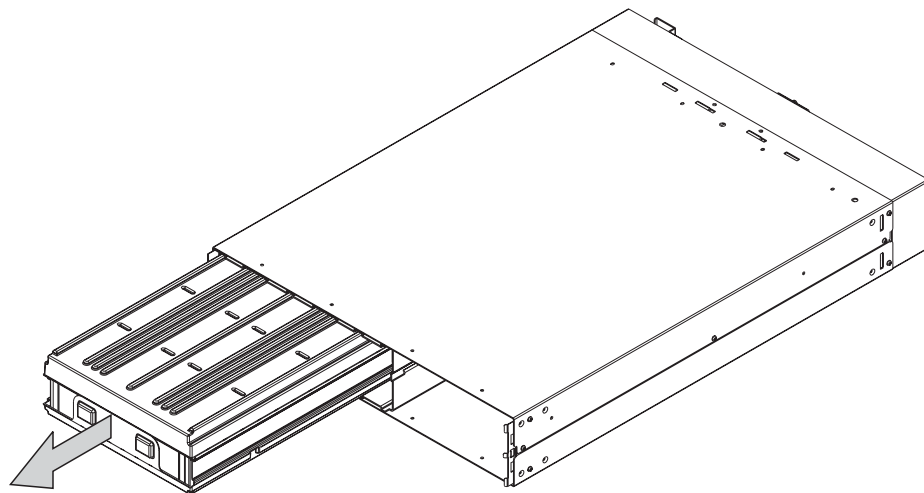

Figure 116. Removing the uninterruptible power supply battery
4. Remove battery plate which will then allow access to the battery (see Figure 116 on page 173).